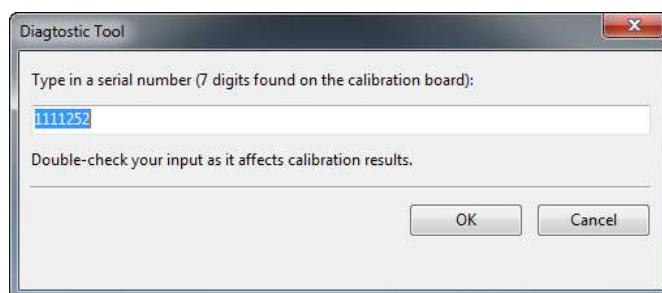
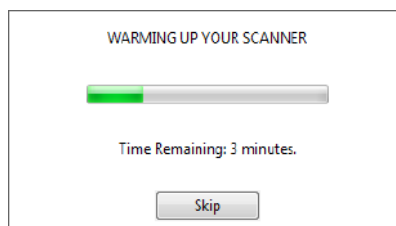

Figure 164: Entering serial number of calibration board.
Figure 165: Warming up the scanner.
6. Click *Start calibration*. A dialog box will open (see Figure 164); enter the serial number of your calibration rig (it appears on the board). If the scanner temperature is outside the optimal range—for example, you just connected the device to a power outlet—the tool will notify you of this condition (see Figure 165). We advise against clicking *Skip* and instead recommend waiting for the Artec Spider to reach its optimal temperature.